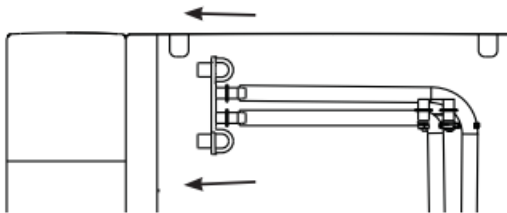

Figure 8
10. Unhook the top of the drain hoses at the back of the unit. See figure 8.